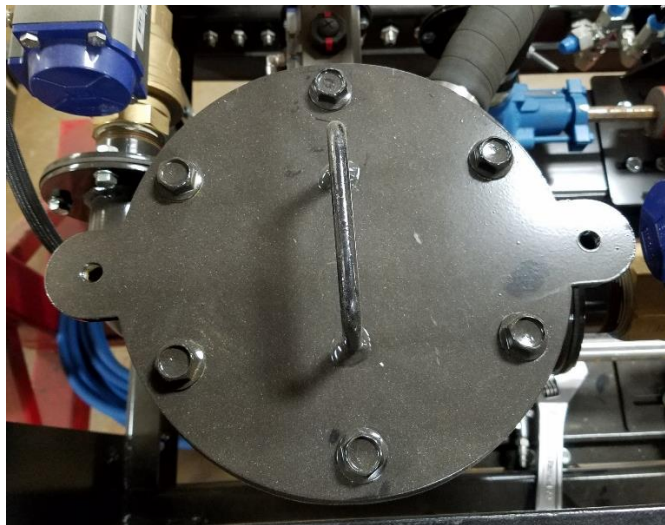

Figure 43: Strainer screen in the pumping station
3. Pull out the strainer screen (Figure 43).